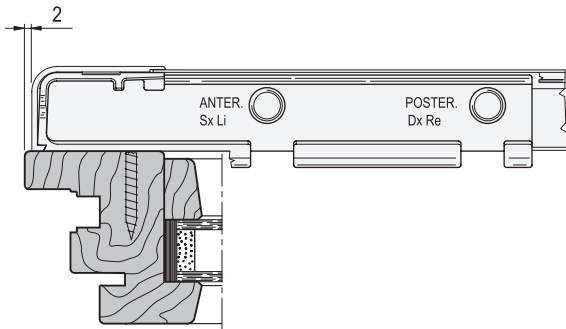

fig. 2
- 1) Adjust the carriage drilling jig, art. M02030.00.02 (a), keeping in mind that, when $X=34$ (fig. 1), the carriage cover remains at 2 mm distance from the sash rebate edge (fig. 2).